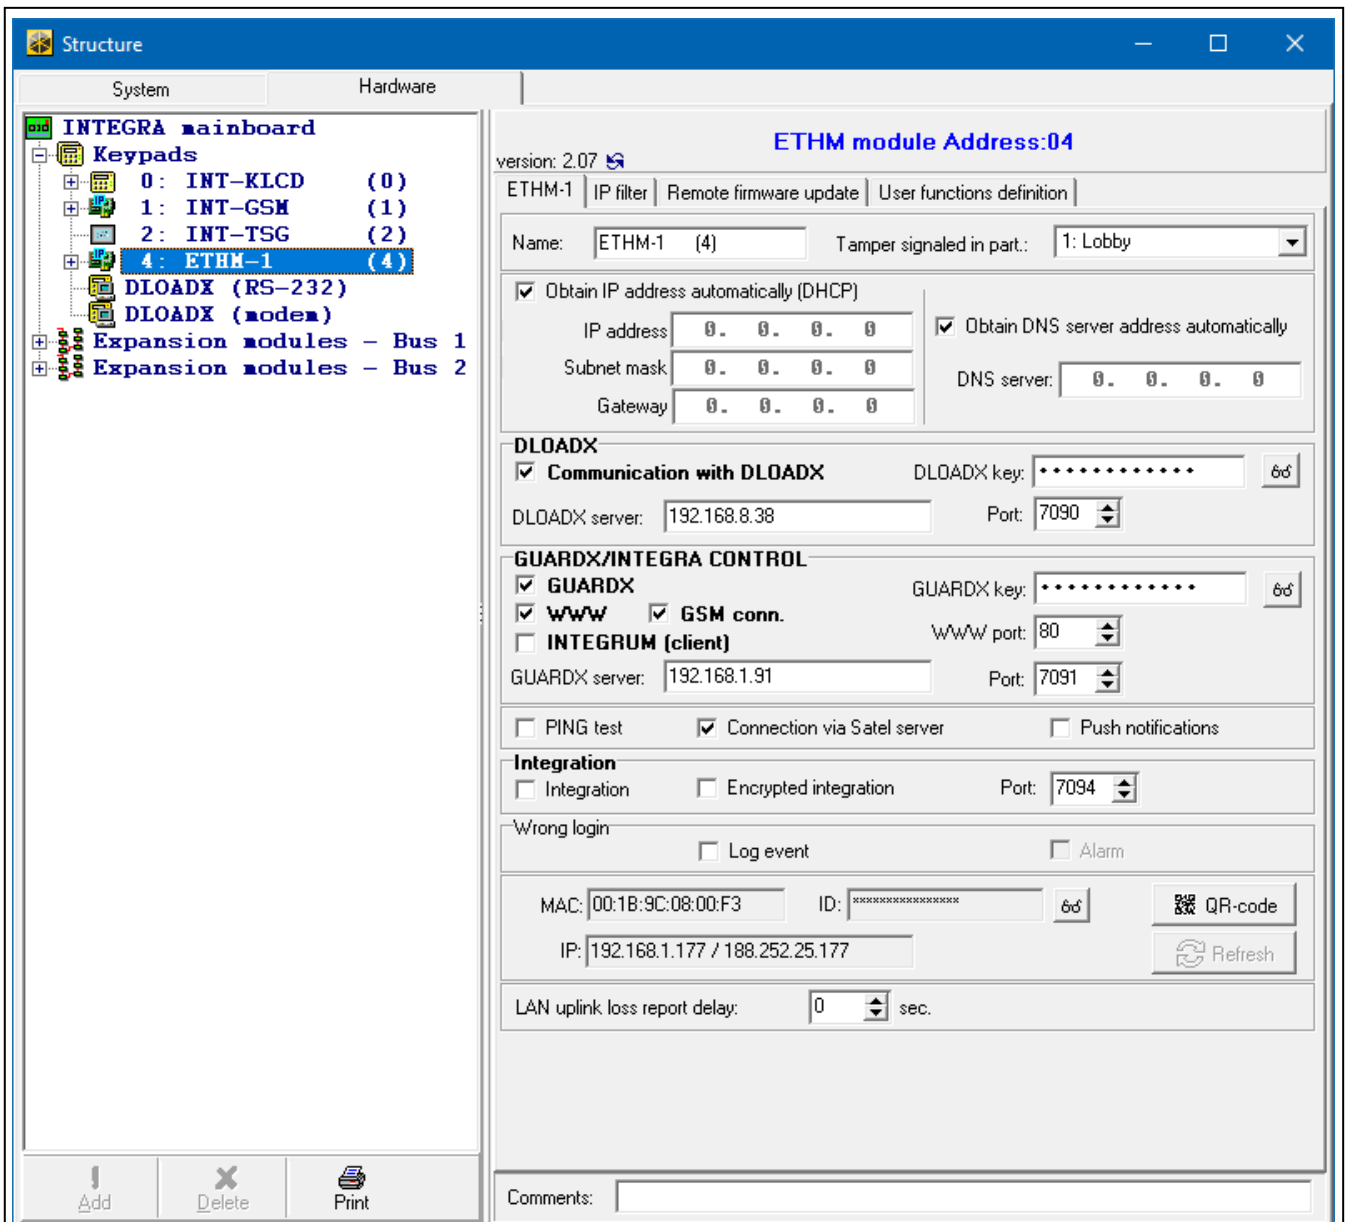

Fig. 5. DLOADX program: settings of the module connected to INTEGRA / INTEGRA Plus control panel (module is identified as “ETHM-1”).
- in the **DLOADX** program: below the module parameters and options (Fig. 5 and 6).